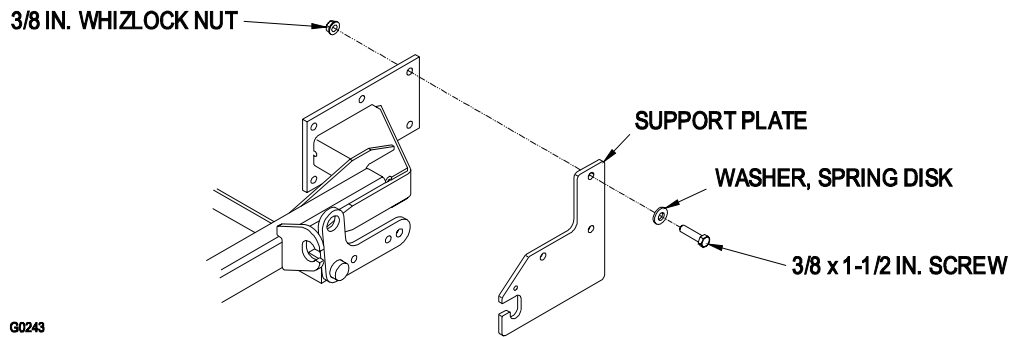

Figure 5
12. Attach a support plate to each side of the traction unit frame using 3 bolts (3/8 x 1-1/2 in.) and the washers and whizlock nuts that were removed in step 11 (Fig. 5). Torque the bolts to 30 ft.-lb. (41 N·m).